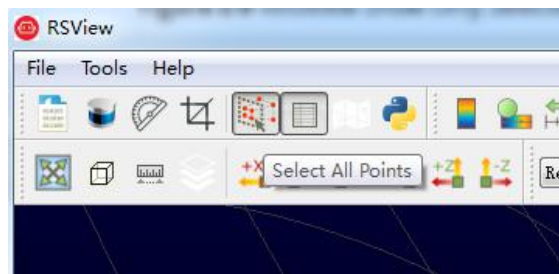

Fig C-11 RSView Select All Points
8. Click the **Select All Points** tool. This turns your mouse into a point selection tool(Fig C-11).